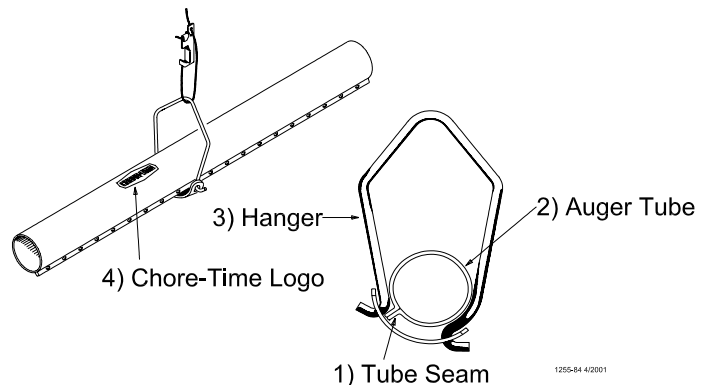

Figure 23. Hanger Installation
3. To achieve total feed drop out all along the system, the Chore-Time Logo should be centered at the crown of the tubes and all the Hangers should be installed as shown in Figure 23.
5. Install the Hangers on the feed line tube at the 8' [2.4 m] spacings determined by the suspension drop lines. **Figures 23 and 26** show the proper installation of the Hanger Assembly. Make sure the outlet drop hole is downward when the Hangers are installed, otherwise feed will not be allowed to drop into the feeder pan.